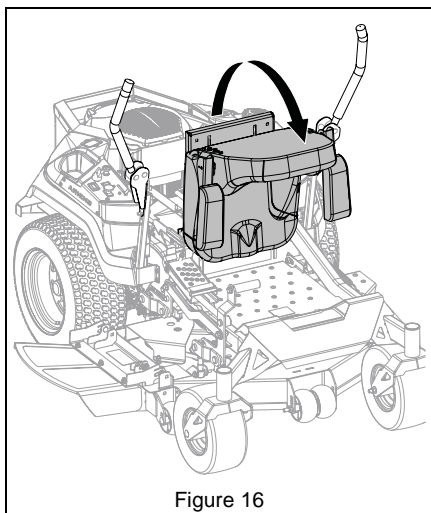

Figure 16
6. Rotate seat forward. See Figure 16.